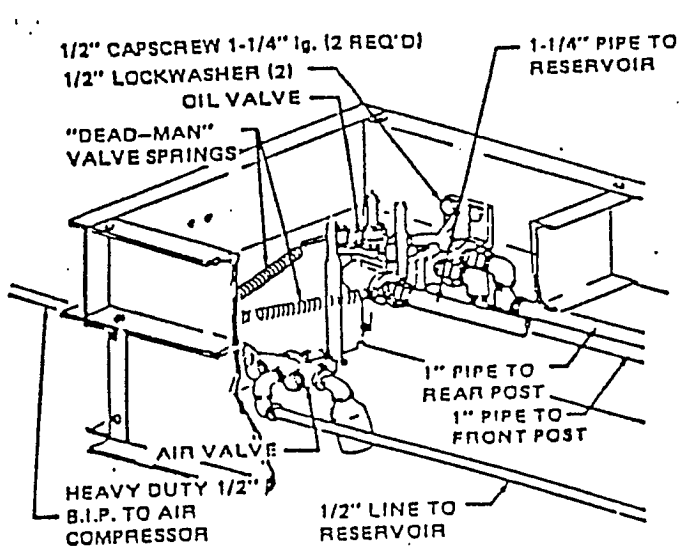
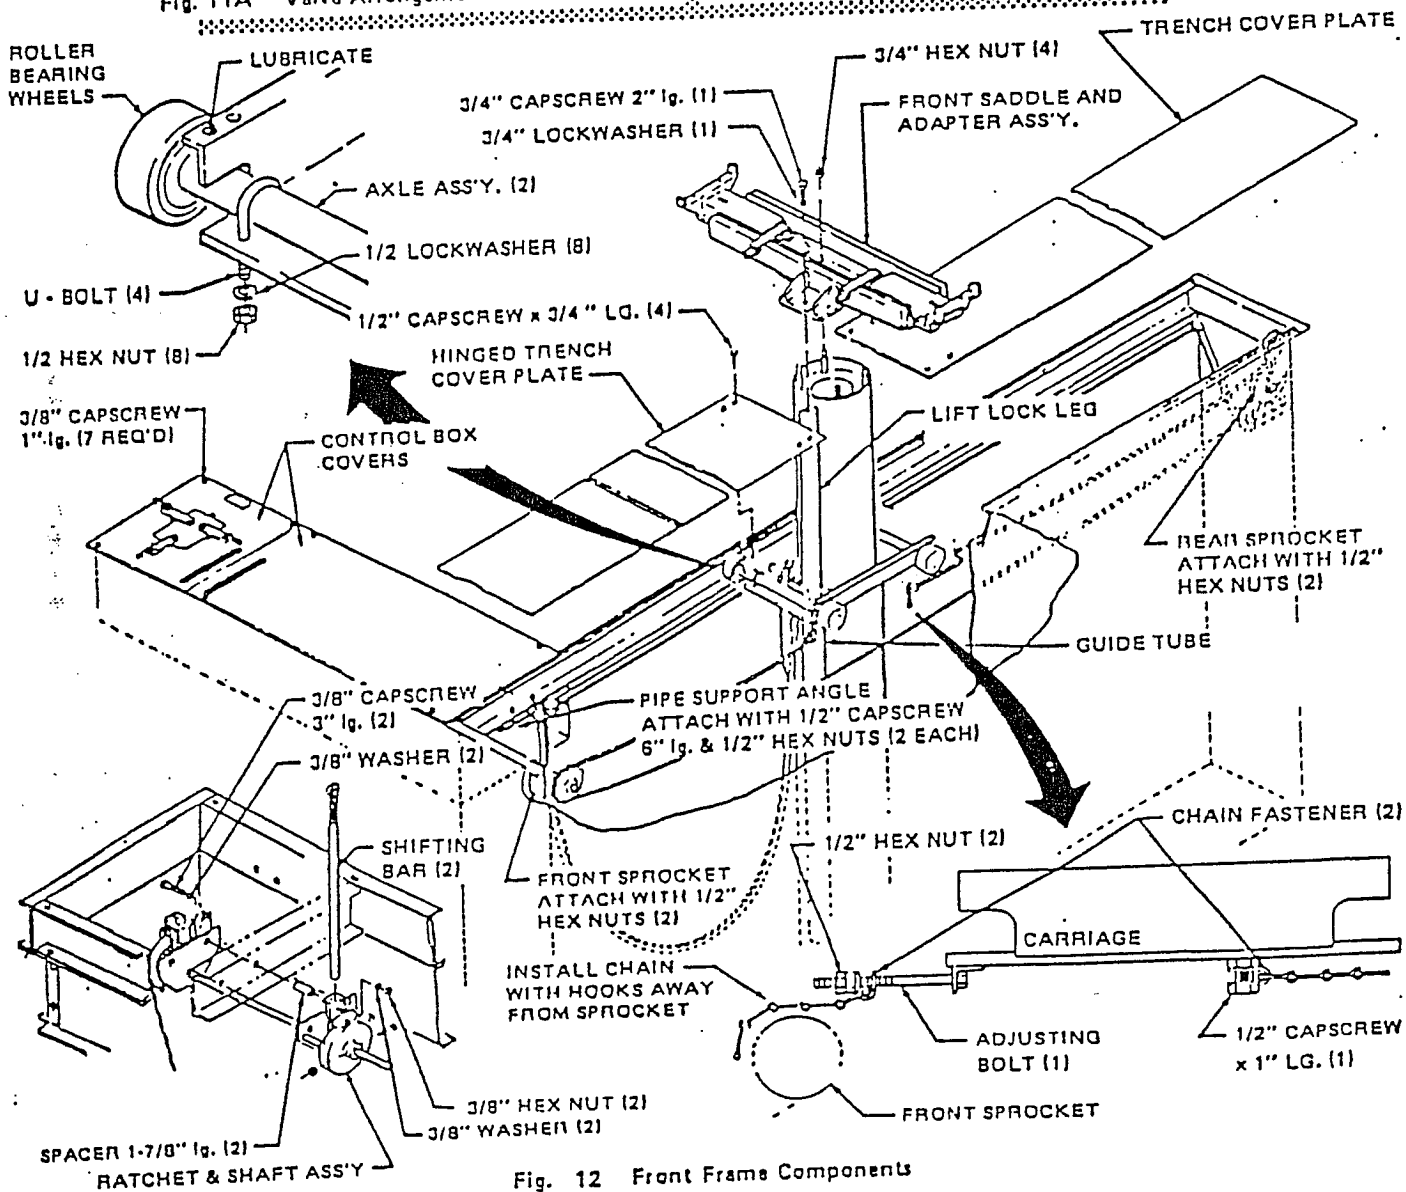

Fig. 11A Valve Arrangement for 105
Fig. 12 Front Frame Components
3. Hook "Dead-Man" valve spring (Fig. 11A & 11B) from oil valve to bracket in control box. Attach rear sprocket hanger to the studs welded on rear end of front frame Fig. 12.
4. Place ratchets and sprockets shaft assembly in position through control box and attach sprocket hanger to studs on front frame. Attach ratchet hangers to side of control box channel with capscrews, washers, spacers and hex nuts as shown in Fig. 12.
axles to carriage with U-bolts, lockwashers and hex nuts. See Fig. 12 Lower to rest on rack.
8. Install pipe support angle to frame with two capscrews and hex nuts Fig 12.
9. Install chain over sprockets (hooks away from sprockets) and fasten to carriage as shown in Fig. 12. Adjust chain as required.
16. Fasten cover plates to carriage as shown in Fig. 12 Longest (hinged) toward front. Install extension cover and control valve cover with capscrews. Install valve handles and shift levers. Attach rear plunger doors as shown in Figure 8.